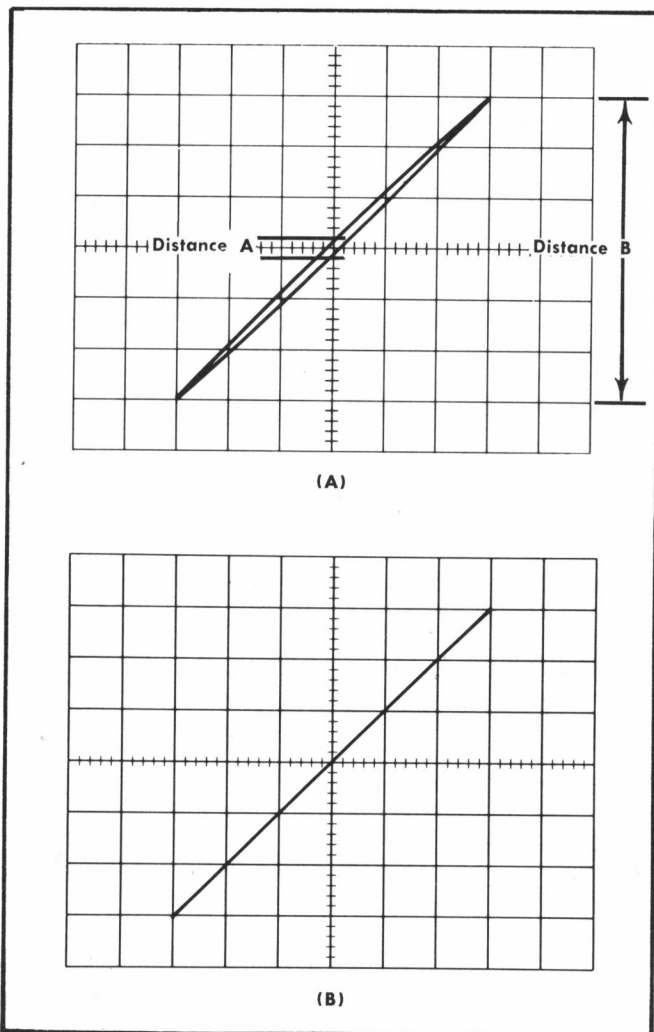

Fig. 5-4. Typical display showing a phase difference of (A) approximately 2 degrees. (B) Zero degrees.
- Adjust the sine-wave generator amplitude (and the 602 VERT and HORIZ POSITION controls) for diagonal display as shown in Fig. 5-4.
- CHECK—For not more than 1 mm vertical separation of the traces. See Fig. 5-4.